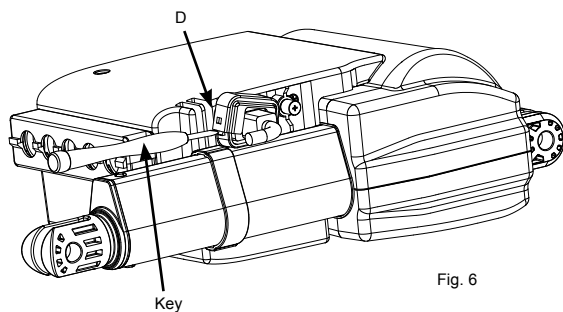

Fig. 6
4.3.2 Using a screwdriver to prize the bottom of power cord fixer on LAK4D controller (Fig. 6-D).